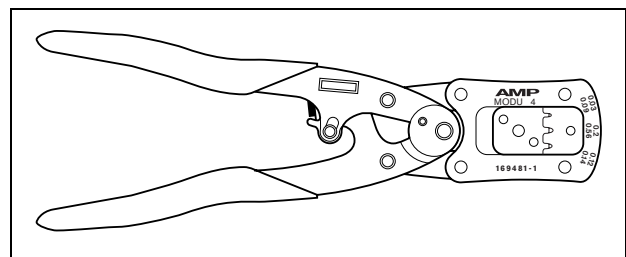

figure 15.13: Tyco AMP Modu 4 169481-1 pliers
- Tyco AMP Modu 4 169481-1 pliers (see figure 15.13)